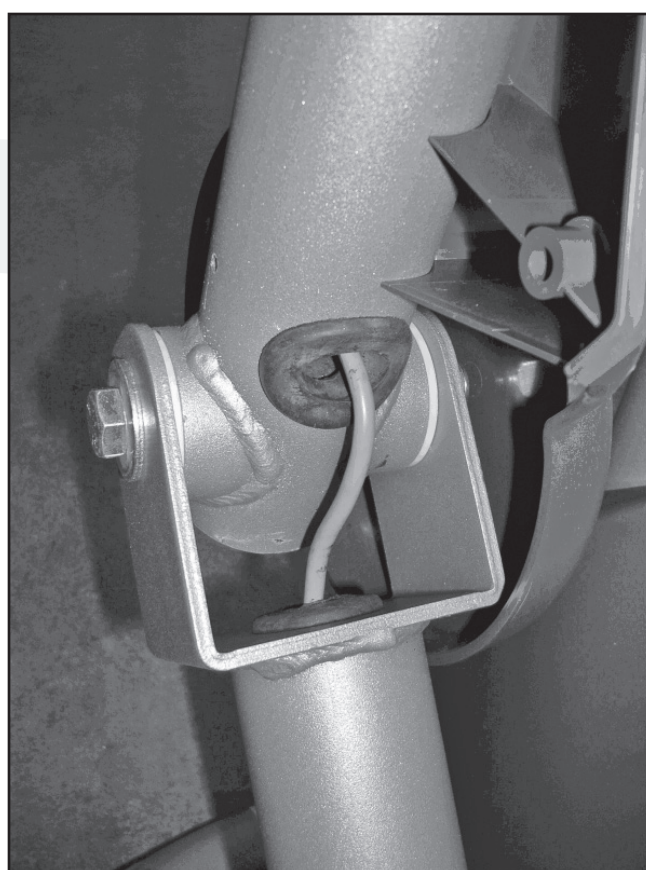

Figure 6
22. Make sure that grommets are fully installed and that only the sheathed cable is exposed (see Figure 6).